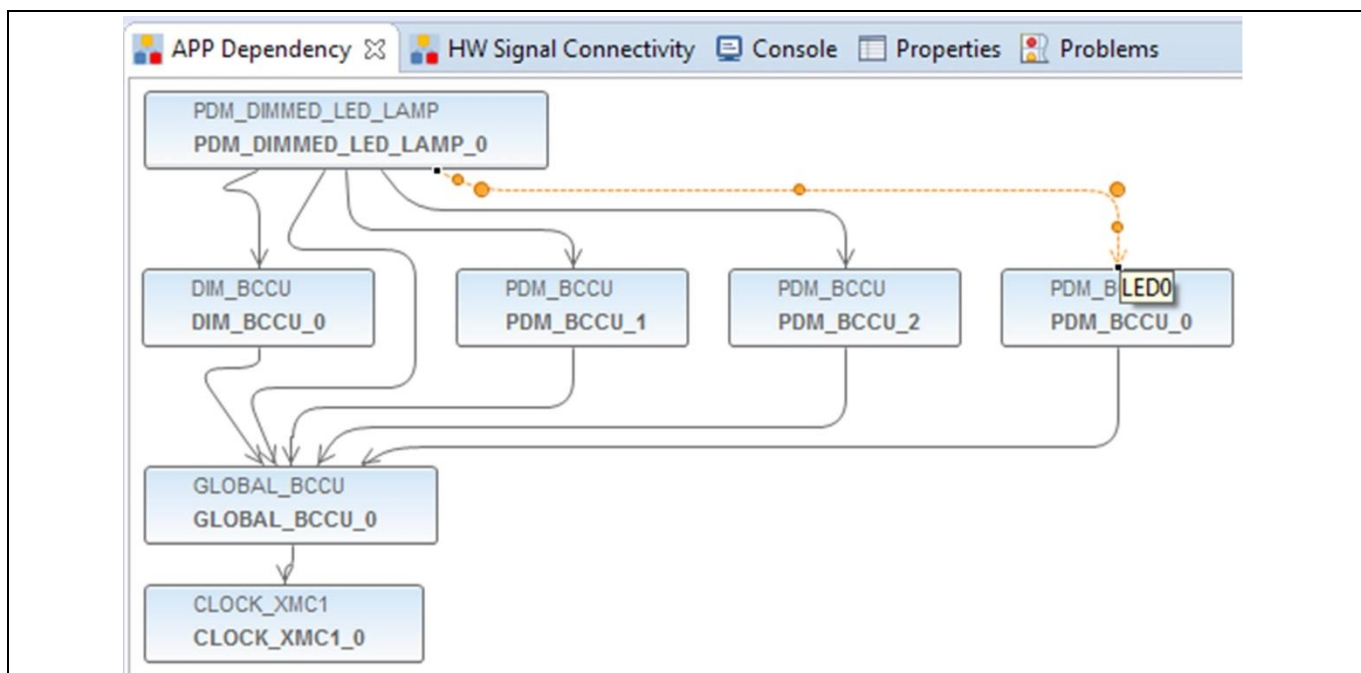

Figure 35 Renaming PDM_BCCU instance label
1. Hover mouse cursor over the **connecting arrow** to a PDM_BCCU APP. A label appears momentarily showing the LED number, for example: LED0 (Figure 35).